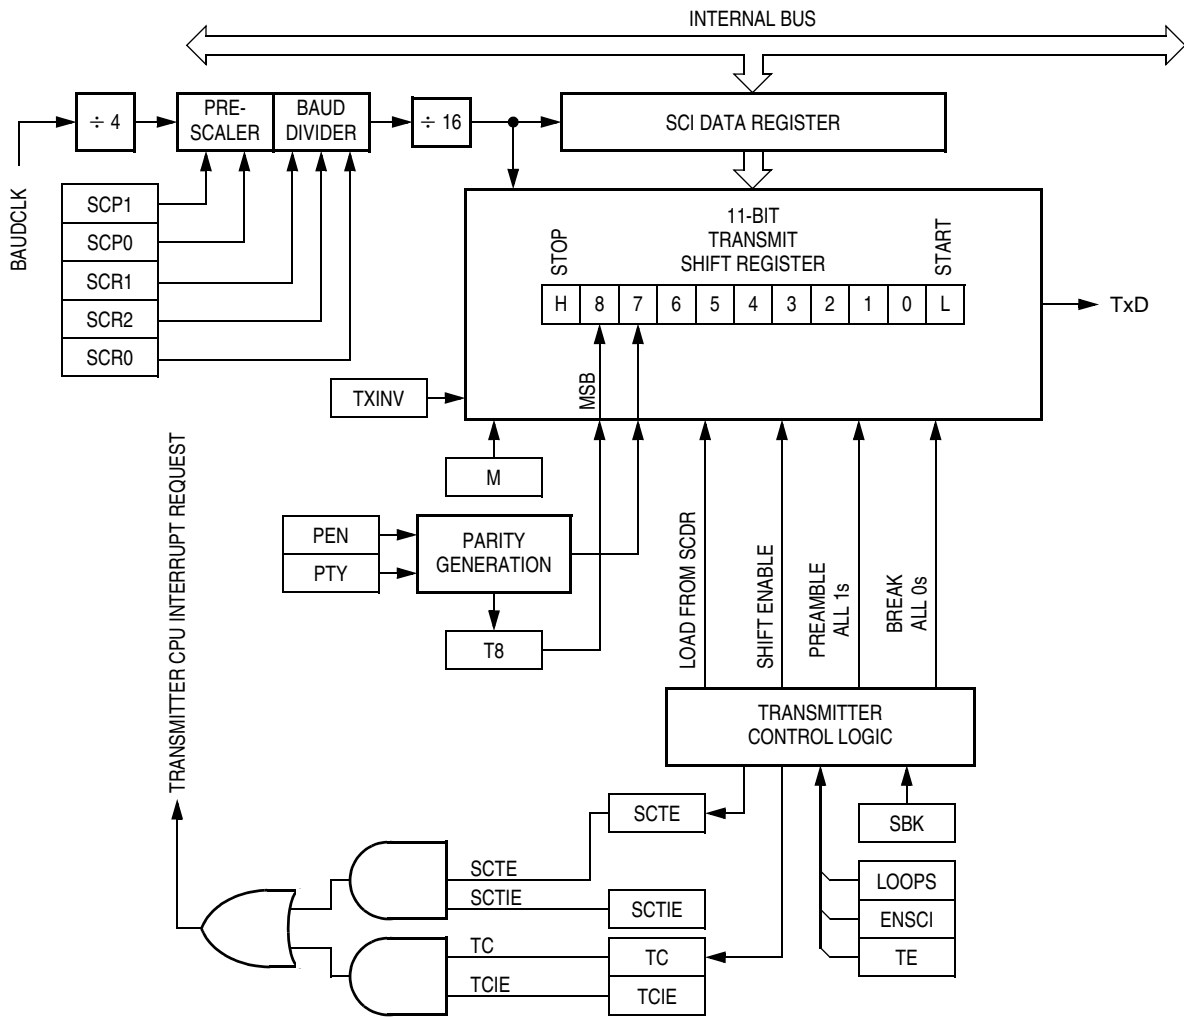

Figure 12-5. SCI Transmitter Break Characters
**Figure 12-5** shows the structure of the SCI transmitter.